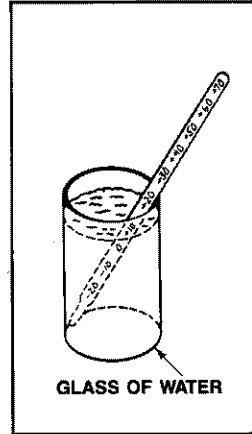

FIGURE 48
**REFRIGERATOR:** Place the thermometer in a glass of water and place the glass in the middle of the refrigerator section. See Figure 48. Be sure air can flow around it. Wait 3 to 4 hours, check the temperature and adjust the control one number at a time as needed to within the 38° to 40°F range. Wait 3 to 4 hours and check the temperature again.